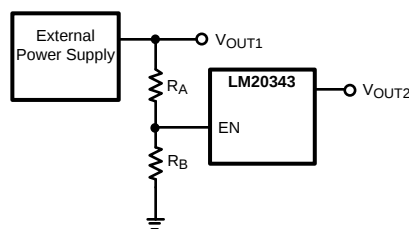

Figure 6. Sequencing LM20343 with Precision Enable
The precision enable (EN) and power good (PGOOD) pins of the LM20343 can be used to address many sequencing requirements. The turn-on of the LM20343 can be controlled with the precision enable pin by using two external resistors as shown in Figure 6 .